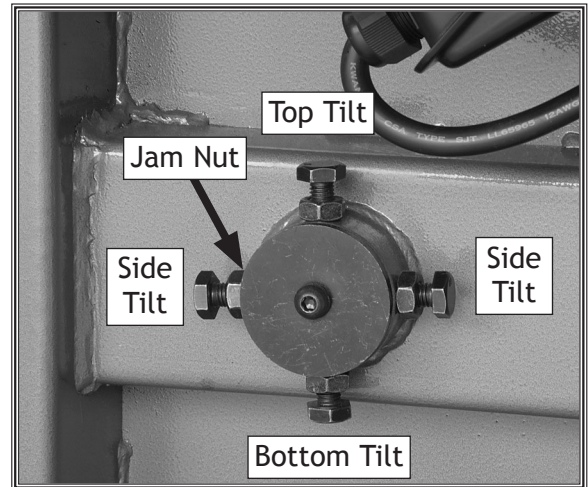

Figure 77. Lower wheel adjustment hub.
2. Loosen the jam nuts on the lower wheel adjustment hub (see **Figure 77**).